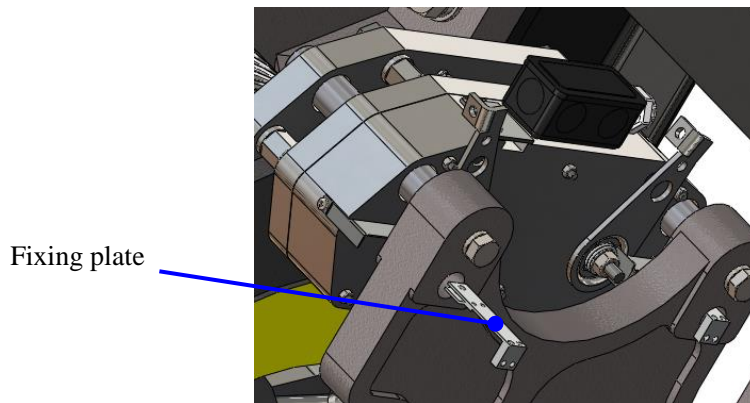

Figure 43: Install Fixing plate
4. Install the fixing plate on the pedestal body, and then apply Loctite 243 on bolt M6 as Figures 43 and 44 show. Tighten bolt to 60 in-lbs.